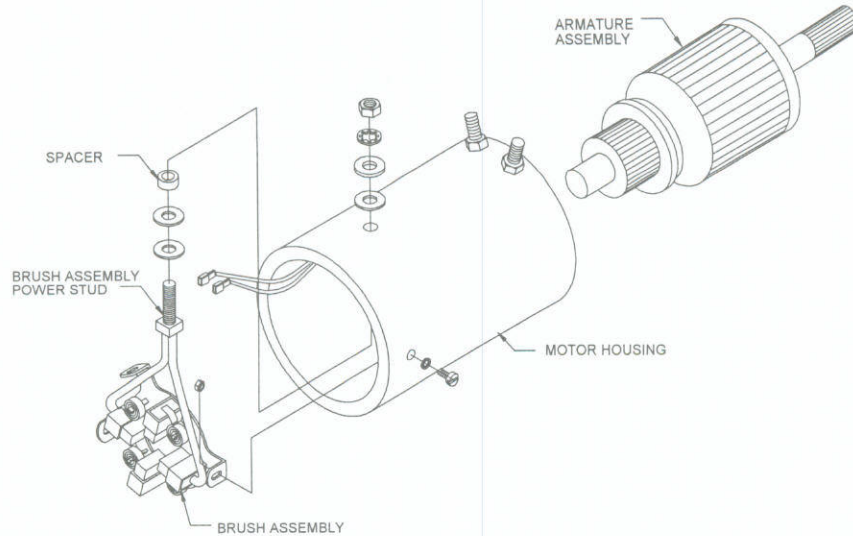

Figure 2.13
12. Remove armature assembly from brush assembly (*Figure 2.13*).
2. Install brush assembly in motor housing and secure with three screws and nuts (*Figure 2.13*).